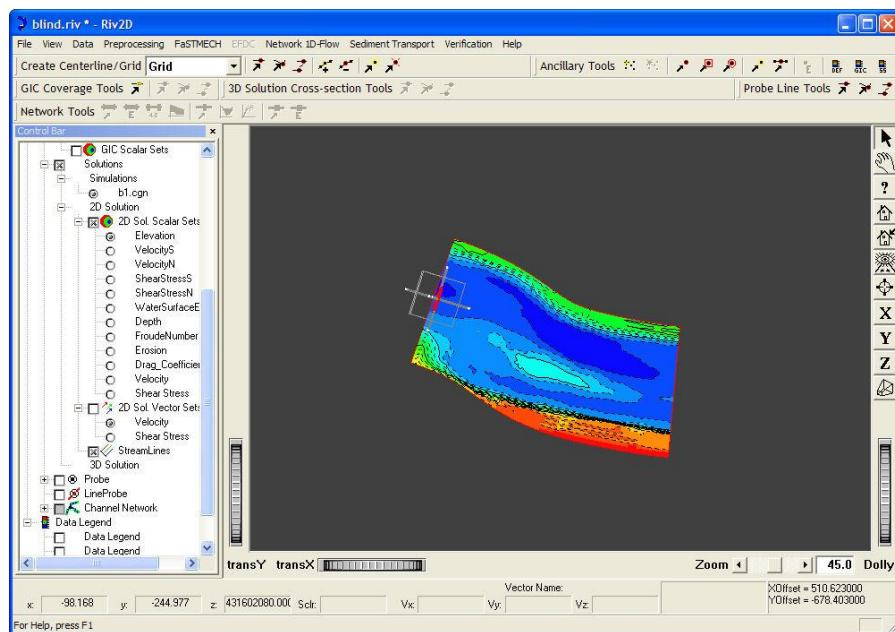

Figure 3.1.3e. The Jack Dragger can be used to locate the origin (red dots) of the streamlines.
- Notice that there is now a graphic object called a **Jack Dragger** in the Graphic View that looks like a "jack" with some red dots on it. Click the selection tool () in the Graphics View. Clicking the mouse on the Jack Dragger Translation Plane and drag to the top of the grid as shown in figure 3.1.3e. Rotate the Jack Dragger by selecting one of its arms so that the red dots (the streamline starting points) are parallel to the upstream boundary of the grid.